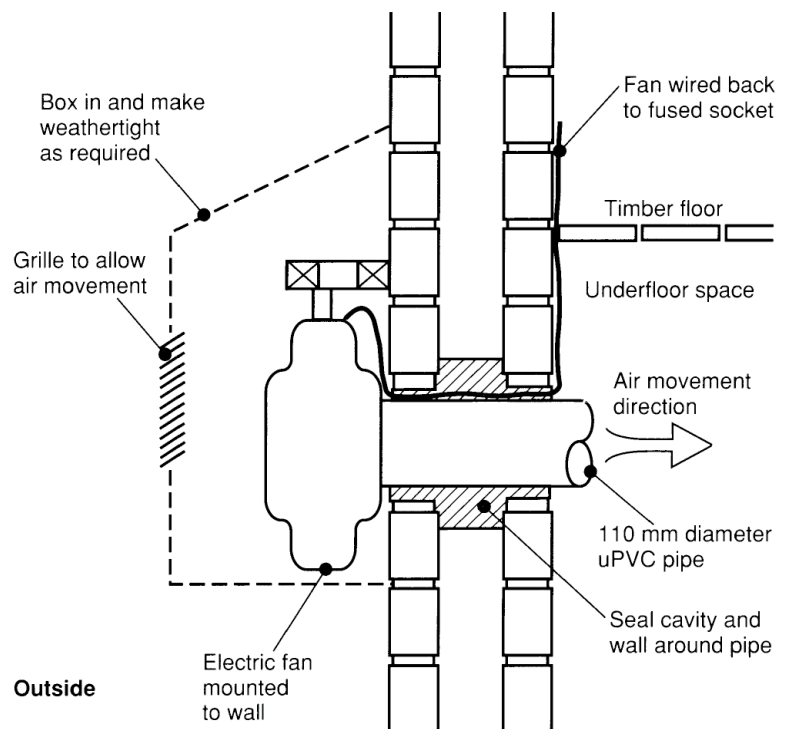

Figure 1 Mechanical supply ventilation with external fan
- outside (use a weather resistant fan or mount the fan within a weatherproof casing or box) (Figures 1 and 2)